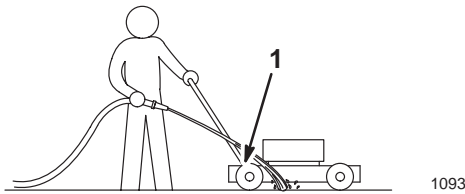

Figure 34
- Hold the running garden hose at handle level and direct the water to flow on the ground just in front of the right rear tire (Fig. 34).